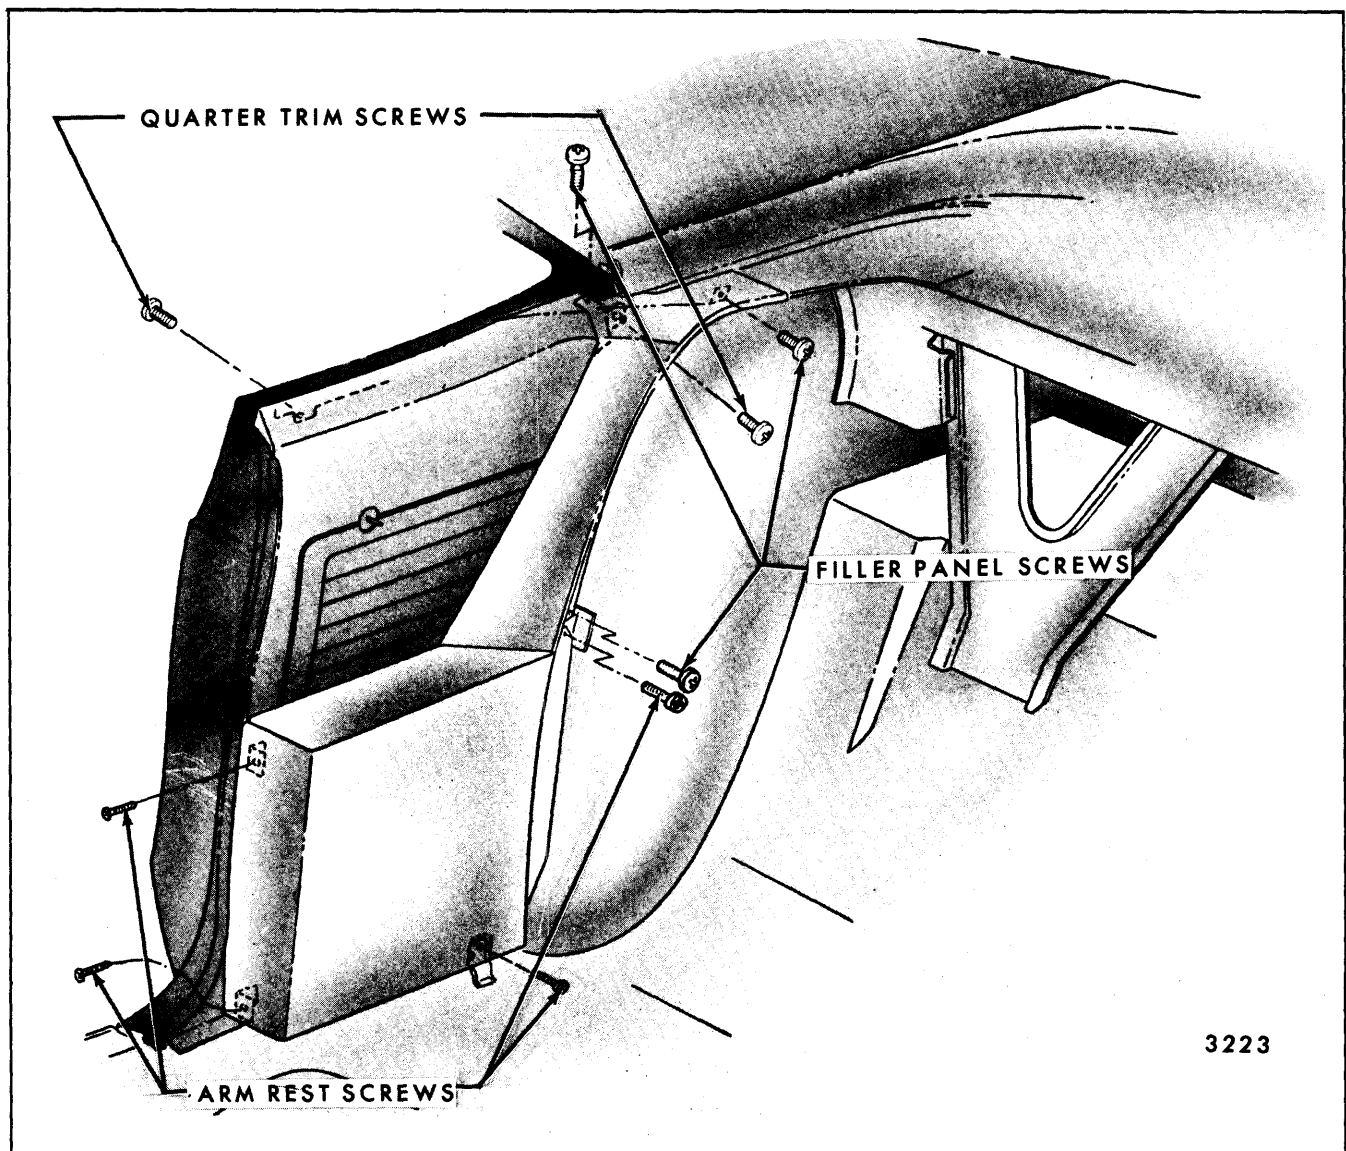

Fig. 14-27—Rear Quarter Arm Rest and Trim Assembly - "39487" Style
5. Remove all screws securing trim assembly (Figs. 14-27, 14-28 and 14-21).